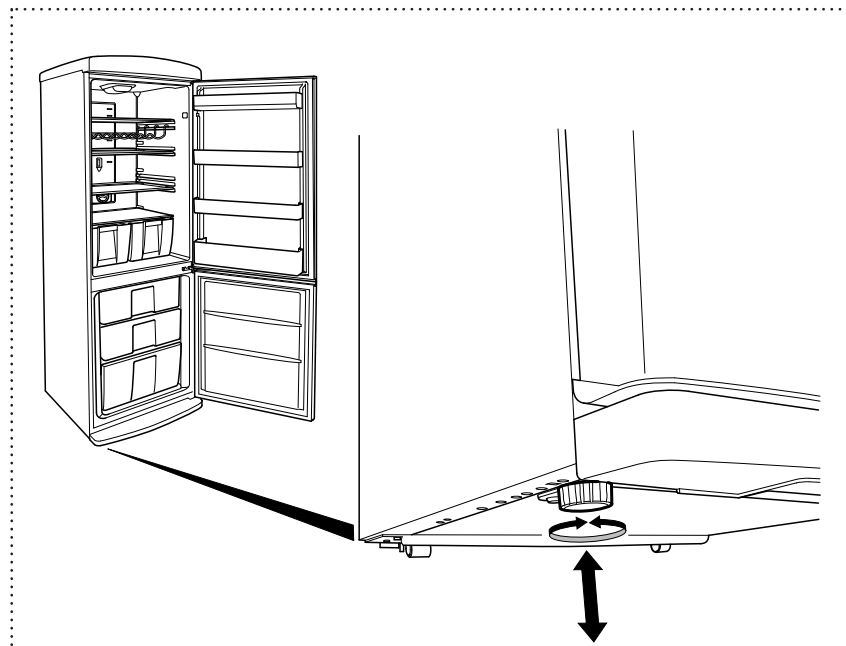

Figure 4
- ❶ To increase the height of the Fridge Freezer, turn the feet clockwise (Figure 4).
- ❷ To decrease the height of the Fridge Freezer, turn the feet anti-clockwise (Figure 4).